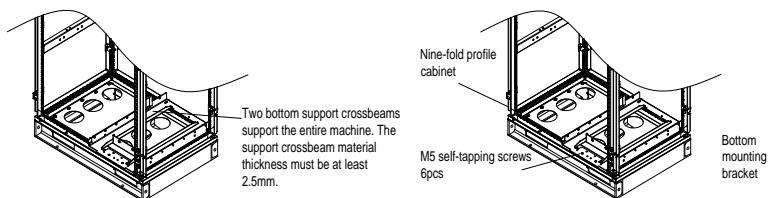

Figure 4-13 Bottom bracket mounting
2	Fix the bottom support crossbeams and mounting bracket in the cabinet. (See Figure 4-13.)
2. Fix the bottom support crossbeams and mounting bracket. See Figure 4-13.